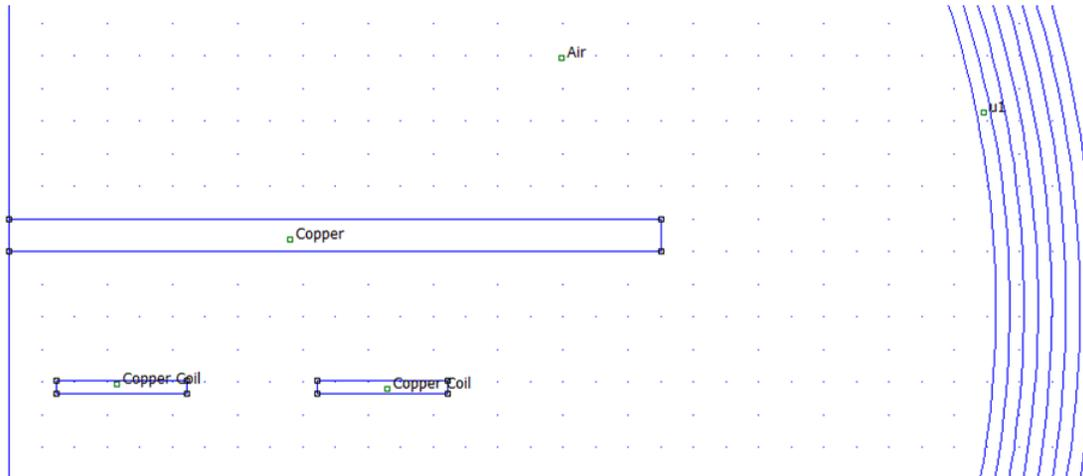

Figure 2-13. Axisymmetric Problem Workspace With Defined Materials
- g. After these steps, the workspace should look something like Figure 2-13: